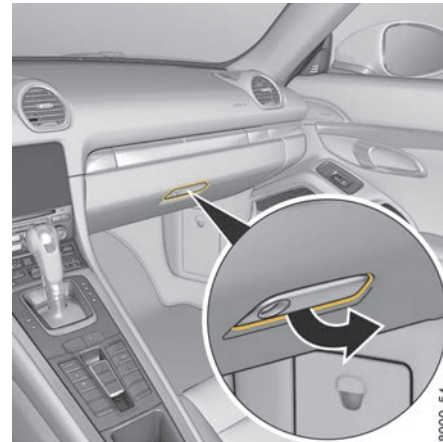

Fig. 212: Opening the glove box
- ▶ Pull the handle (Fig. 212) and open the lid.